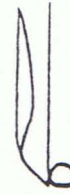

Fig.7
9) Clearance of needle and looper (Fig.7)